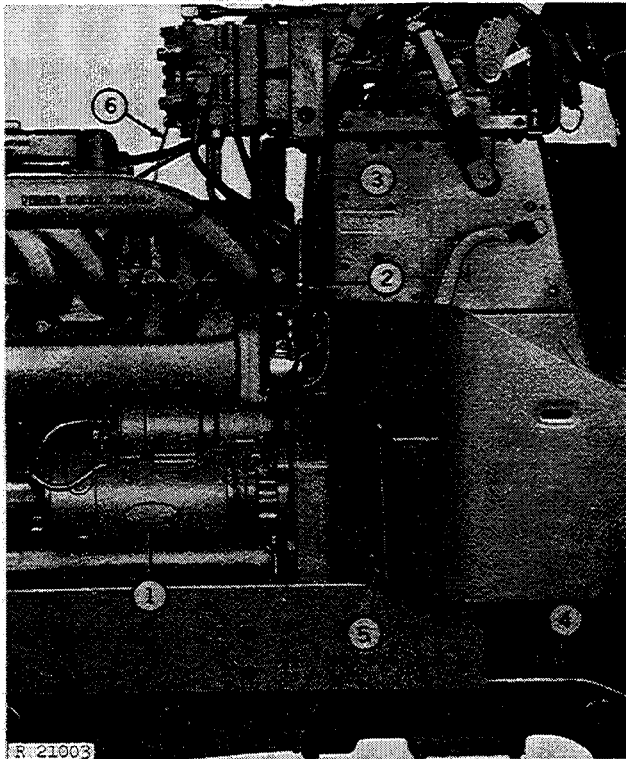

Fig. 8—Separation Procedures on Left-Hand Side
1. Disconnect and remove starter (Fig. 8).